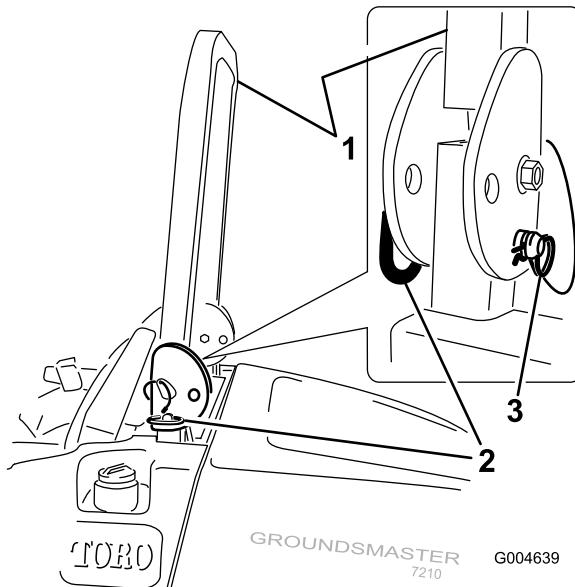

Figure 42
1. To lower the roll bar, remove the hairpin cotters, push the roll bar forward against the springs, and remove the 2 pins (Figure 42).
- Install the 2 pins and secure them with the hairpin cotter pins (Figure 42).
- To raise the roll bar, remove the hairpin cotter pins and remove the 2 pins (Figure 42).
- Raise the roll bar to the upright position and install the two pins and secure them with the hairpin cotter pins (Figure 42).